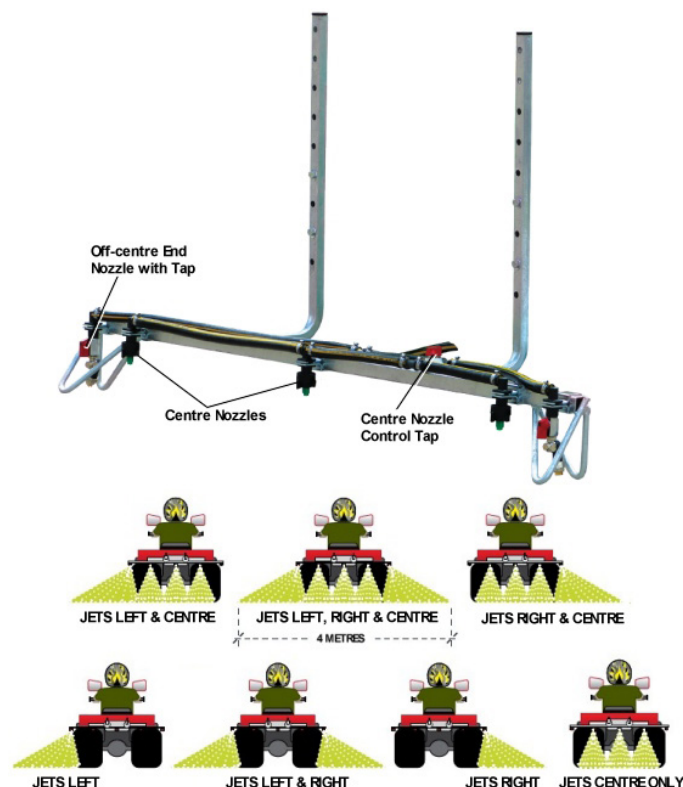

Figure 9 – Spray Boom Details
- Set the required spray selection by opening or closing the individual control valves on the spray nozzle lines, refer to Figure 9 for the VersatileBoom option.